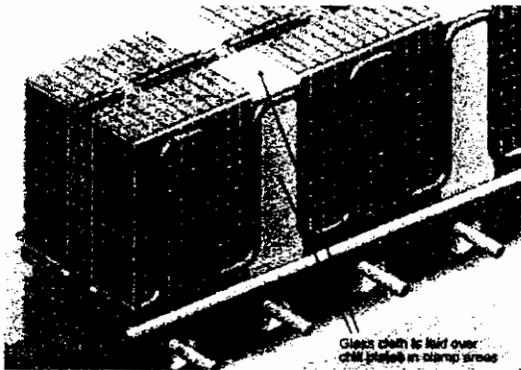

Figure 20- Bag Mold Preparation-1
- 6.33.3 Install (1) layer of dry glass tape over the chill plates in the areas of the final coil clamps. (Figure 20- Bag Mold Preparation-1)